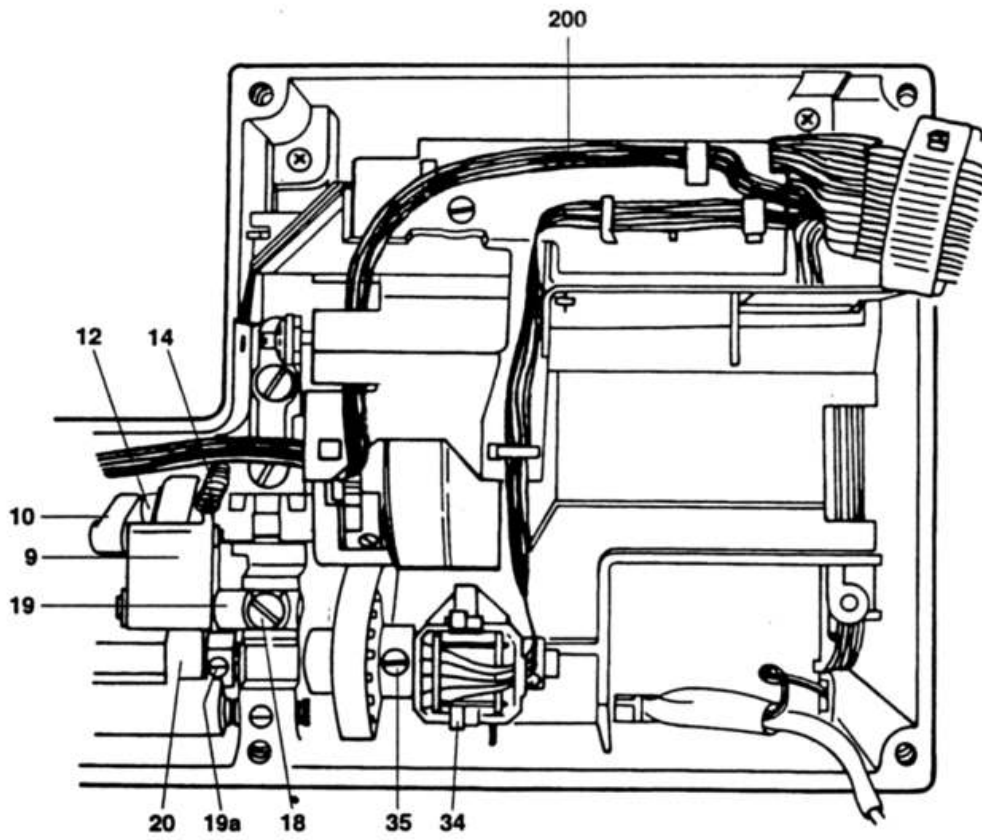

Fig. 27d
- Place five-wire flat cable 127 in cable guide 119 (fig. 27d).